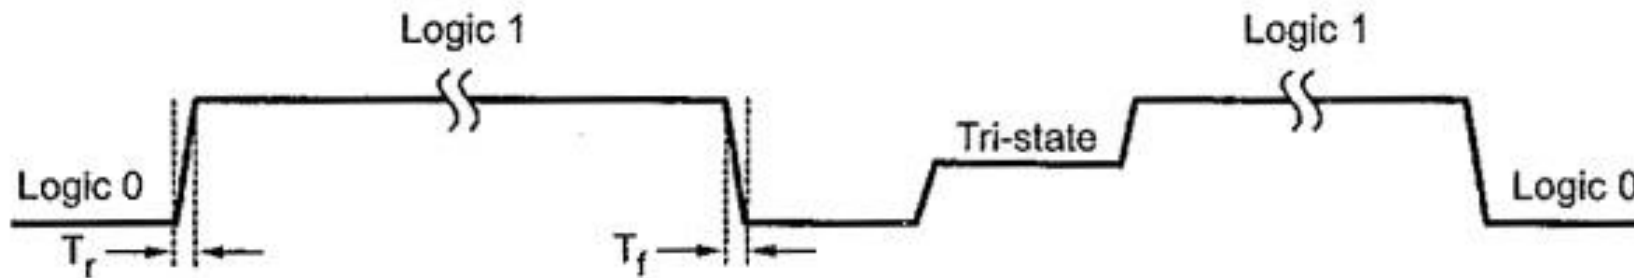

Fig. 1.6 Single signal representation
- ❖ Single signal is represented by a line. It may have status either **logic 0** or **logic 1** or **tri-state**. The change in the state of the signal takes finite time and hence the state change of signal is represented with finite rise time and fall time, as shown in the Fig. 1.6.